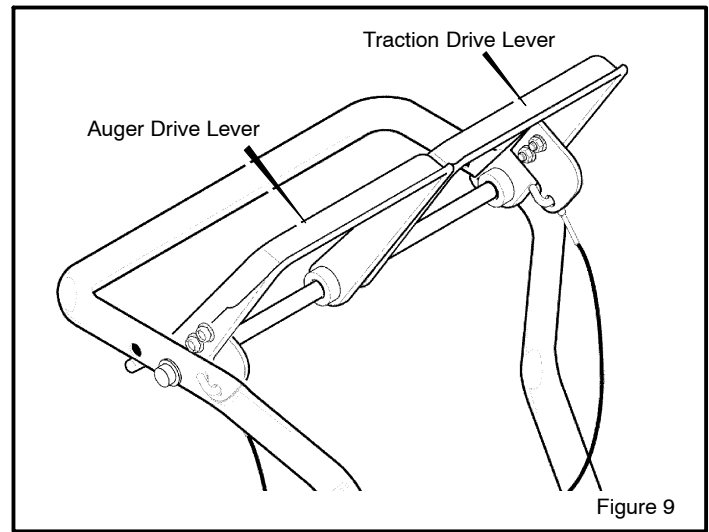

Figure 9
1. To stop throwing snow, release the **auger drive lever**. (see Figure 9).
3. Engage the **traction drive lever** (see Figure 9). As the snowthrower starts to move, maintain a firm hold on the handles and guide the snowthrower along the cutting path. Do not attempt to push the snowthrower.
1. Push down the **auger driver lever** (right hand). See Figure 9.